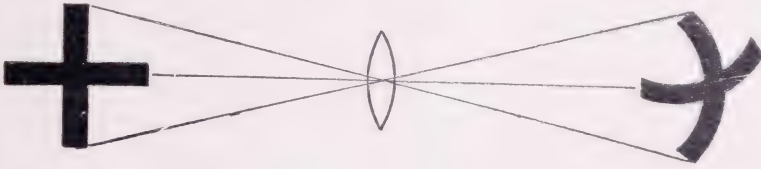

FIG. 21. THE EFFECT OF SPHERICAL ABERRATION
*Curvature of Field.* Because lenses are spherical in shape, they create an image on a *curved field*, as in *Fig. 21*. Since the surface of a negative